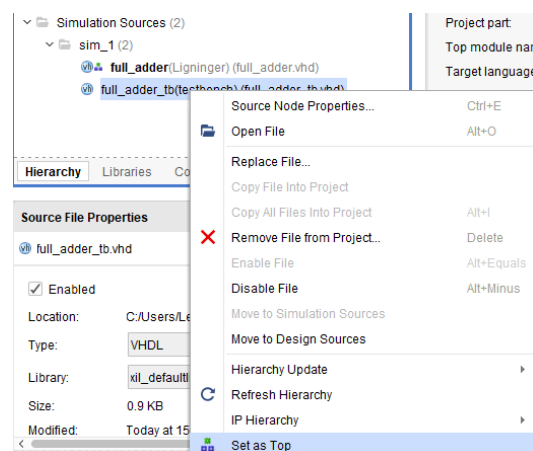

Figure 22 Selecting entity for simulation
- Before simulating, we must select the file to use for the simulation. This is done by right-clicking the “Simulation sources” under the “Sources” window and select “Set as Top” as shown in Figure 22.